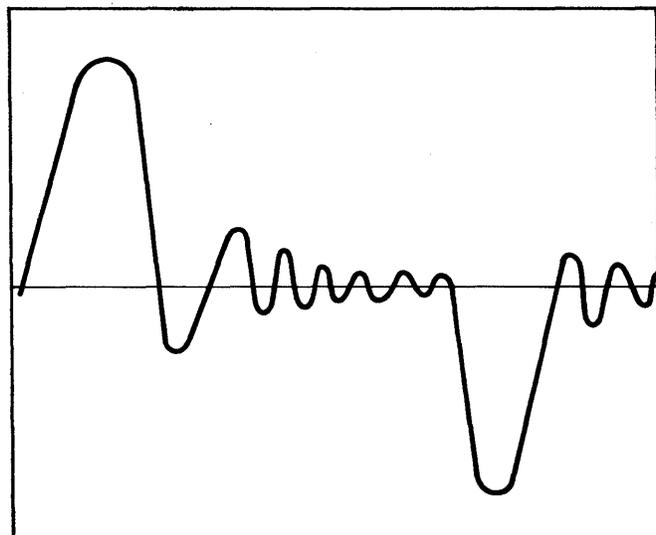

Figure 4-25b. Servo Offset Adjustment - Correct
25. The oscilloscope will now show both the forward and reverse long seeks. The object of this adjustment is to ensure that there is minimum offset voltage input to the PAM board. Since the offset can be different for forward and reverse seeks, the adjustment is only correct when the trace is obtained as shown in figure 4-25b.